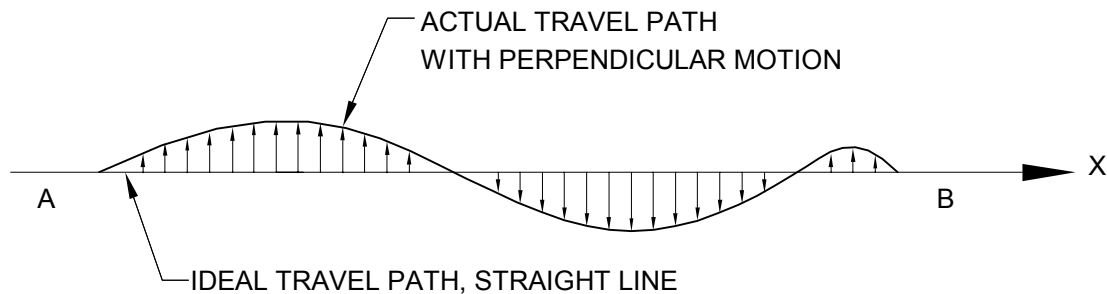

FIG. 10-1 DEFINITION OF STRAIGHTNESS
A straightness measurement is the measurement of perpendicular motion along a travel path as shown in Fig. 10-1.
4. Align the laser beam through A and B as per Fig. 10-1. Attach the quad-detector to the travel mechanism, and align it to the center of the laser beam at A or B. The straightness can be measured by recording x and y along the line of travel. For a typical calibration of a machine tool or a slide, the laser beam is adjusted to be parallel to the motion of the machine slide, table or spindle. The quad-detector target, riding at the tool point, is moved along the line of motion and the display module, continuously displaying the vertical and horizontal shift of the slide.